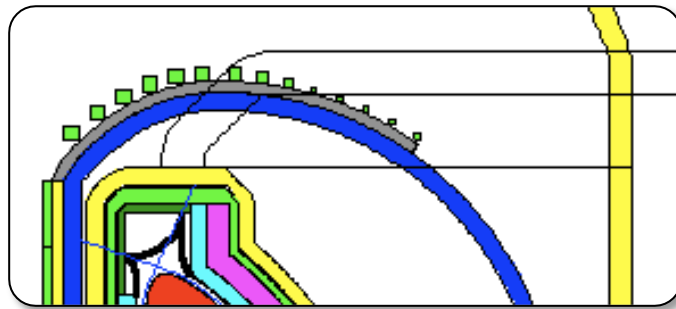

Figure 6. SCLL radial build with vacuum vessel ducting (12/2011)
**Notes:** The vacuum ducts provide a way to access the inside of the vacuum vessel for pumping. The vacuum ducts penetrate the vacuum vessel, route in-between the TF coils, penetrate the upper toroidal cap, nudge the PF coils slightly so there is room to come between them and penetrate the cryostat for connection to vacuum pumps outside the tokamak. See Figure 6 for a visualization.